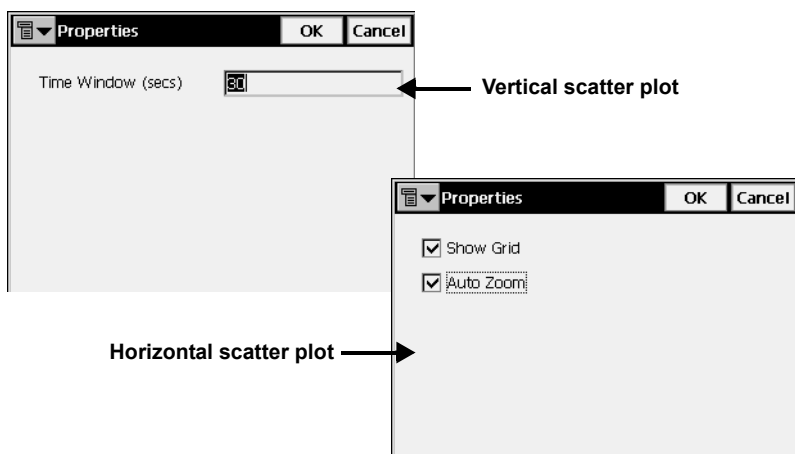

Figure 5-6. Properties
-  : opens the **Properties** screen (Figure 5-6 on page 5-6) from which to set graphical features for the scatter plots.